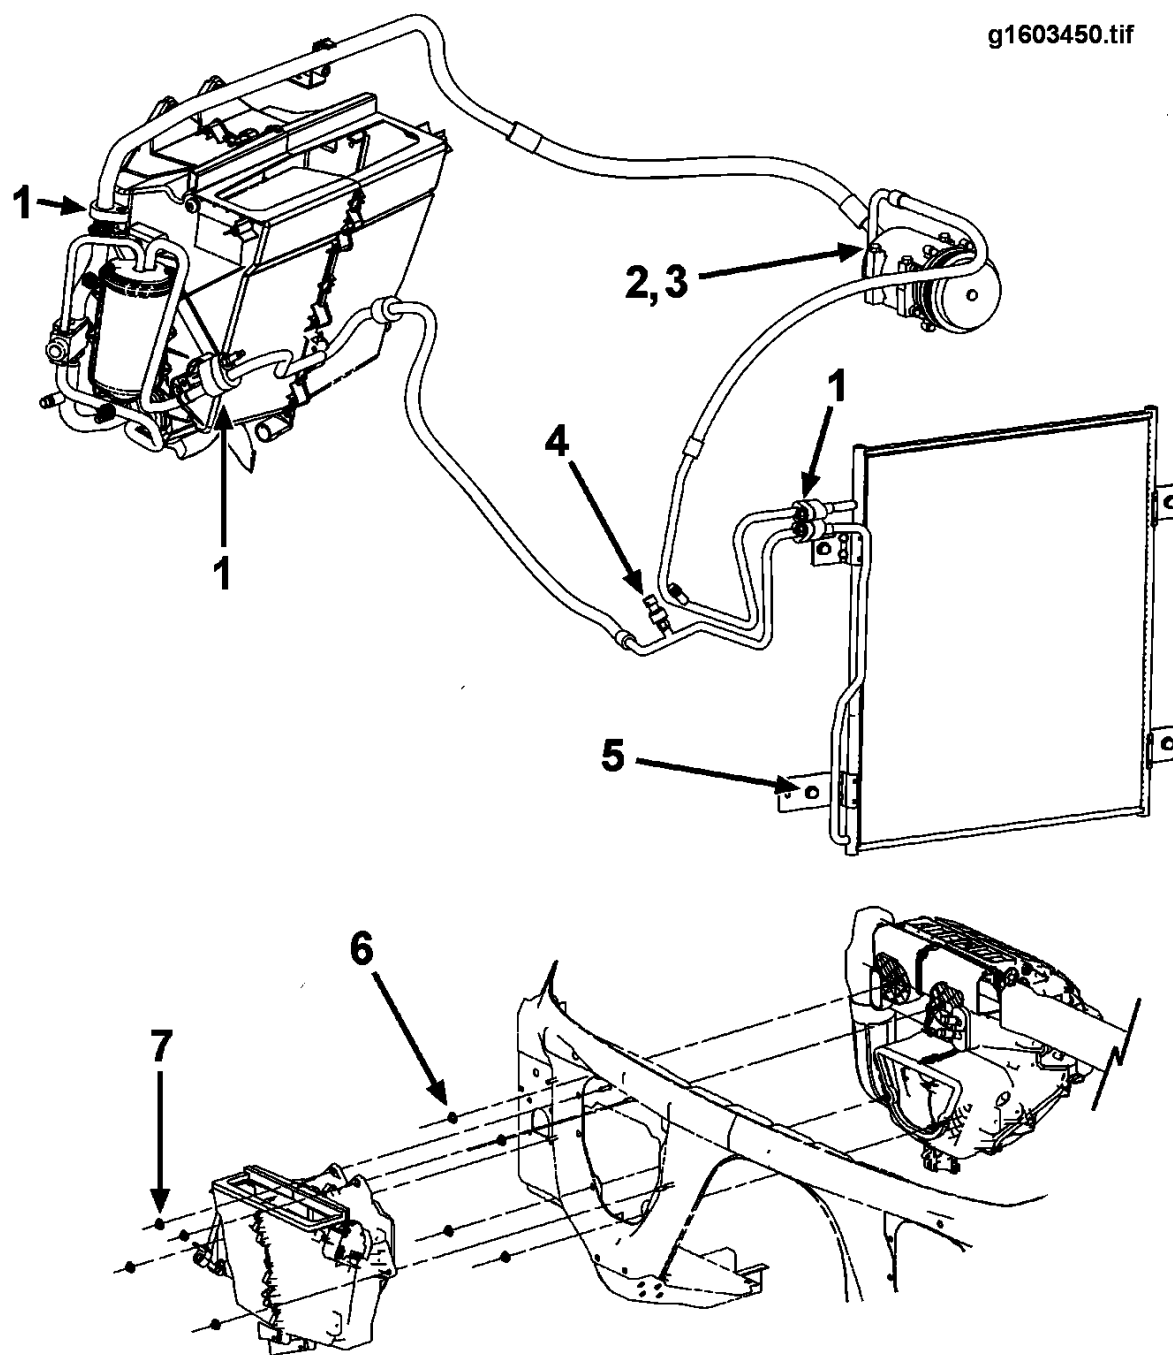

Figure 50 Torque Locations (Figure 1 of 2)
*Refer to the torque location diagrams (Figures 50 and 51) that follow this table.